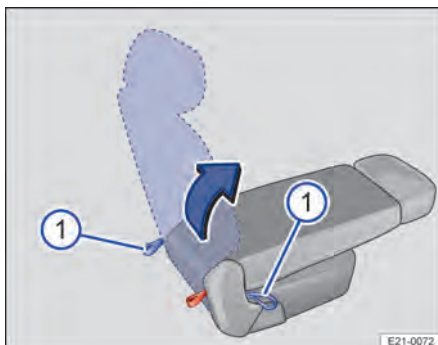

Fig. 63 Second row of seats: folding backrest forward and back.
4. Pull one of the loops → Fig. 63 ① behind the seat or at the side of the seat forwards and hold. Fold the backrest forward a little and release the loop.
1. Pull one of the loops behind the seat or at the side of the seat forwards and hold → Fig. 63 ①. Fold the backrest up a little and release the loop.